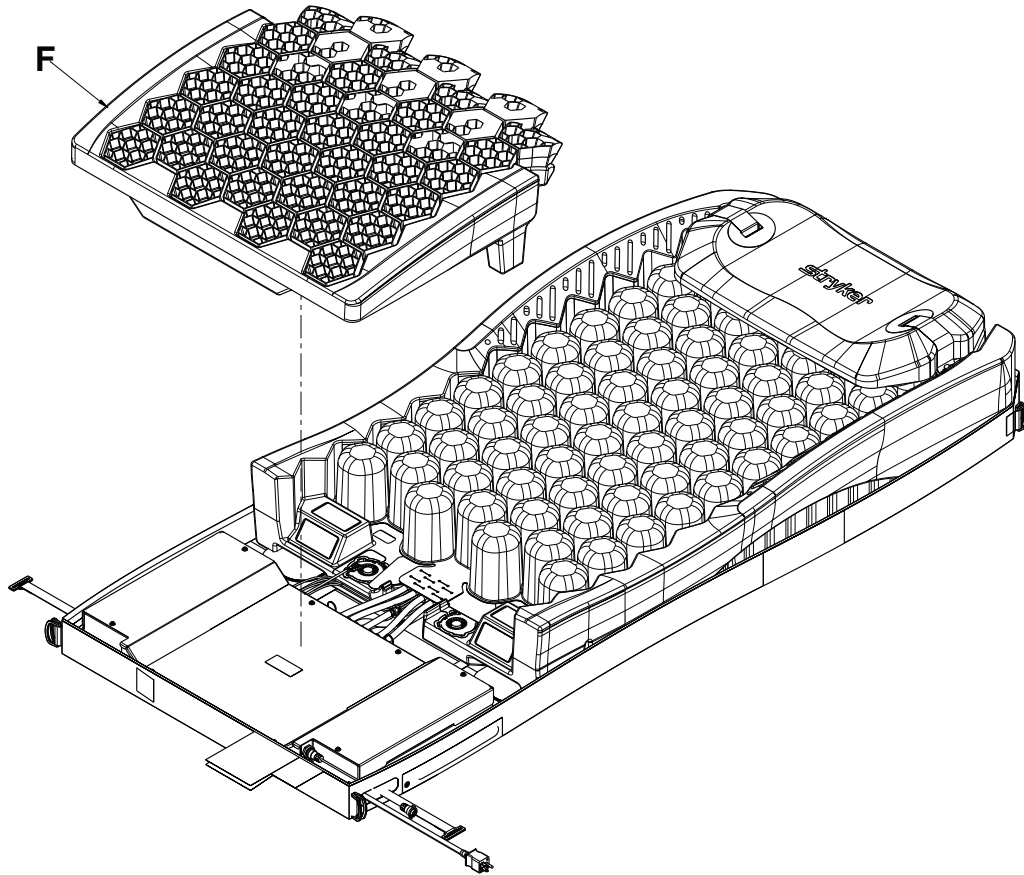

Figure 25 – Gel crib
3. Lift up and remove the foot section gel crib (F) (Figure 25). Save the gel crib.